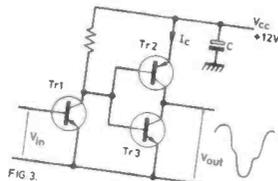

FIG. 3.
- In the design of a transistorised class B amplifier, as shown in Fig. 3, the cause of the distortion shown in the output diagram is: